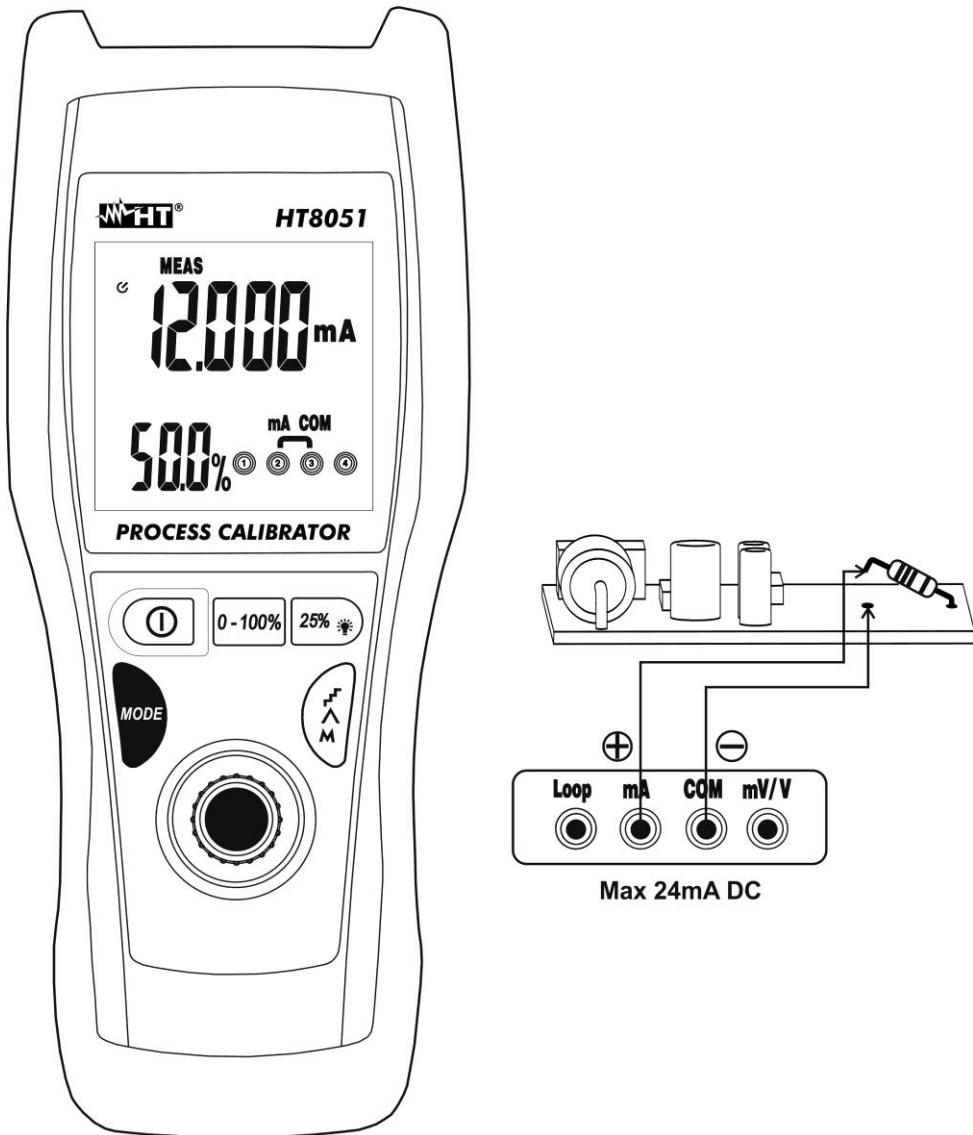

Fig. 5: DC current measurement
4. Connect the green lead and the black lead in series to the circuit whose current you want to measure, respecting polarity and current direction (see Fig. 5)
6. The message "-OL-" indicates that the current being measured exceeds the maximum value measurable by the instrument. The instrument do not perform current measurements with opposite polarity respect to the connection in Fig. 5. The value "0.000" is shown at display